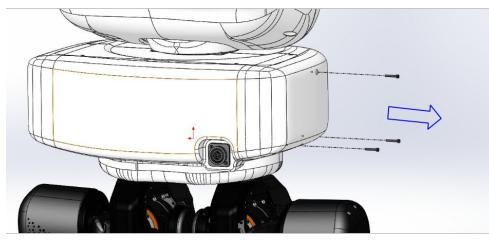
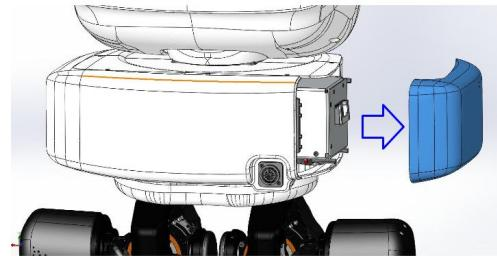

Figure 14: Release screws
Figure 15: Remove side covers
2. Remove the cover in the right side of the robot's pelvis by loosening the screws (Figure 14, Figure 15).